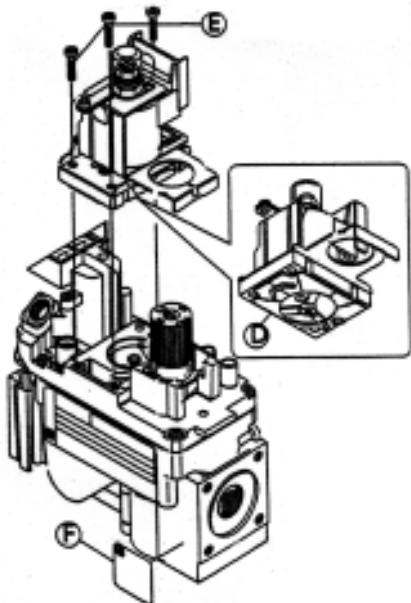

Figure 3. Installing the new gas valve regulator assembly.
2. Ensure that the rubber gasket (item D in Figure 3) is properly positioned and install the new modulating pressure regulator assembly to the valve using the new screws (E) supplied with this kit. Tighten the screws securely. (ref. torque = 25 in. Lb.)